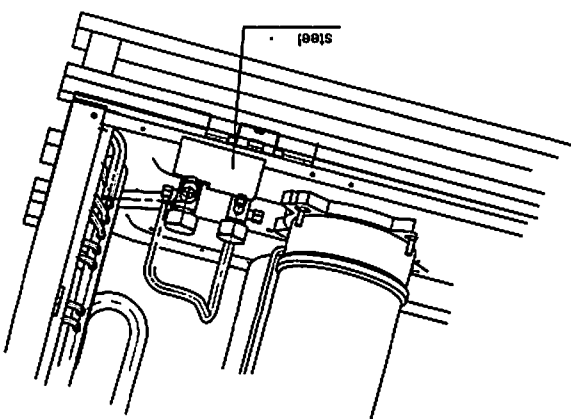

Fig. 4-7
- As shown in Fig. 4-7, when brazing the indoor and outdoor connective lines, pad a sheet metal under the valve avoids the flame burning the chassis.